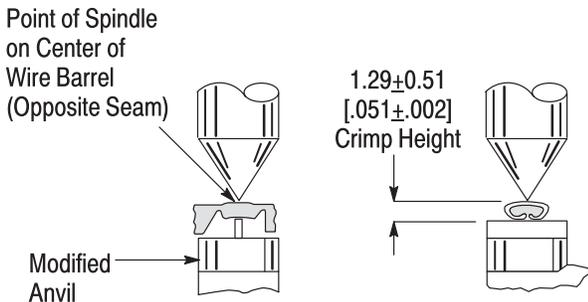

Figure 5
3. Check the height of the crimped wire barrel against the crimp height dimension given in Figure 5. If the crimp height conforms to the dimension, the tool is considered dimensionally